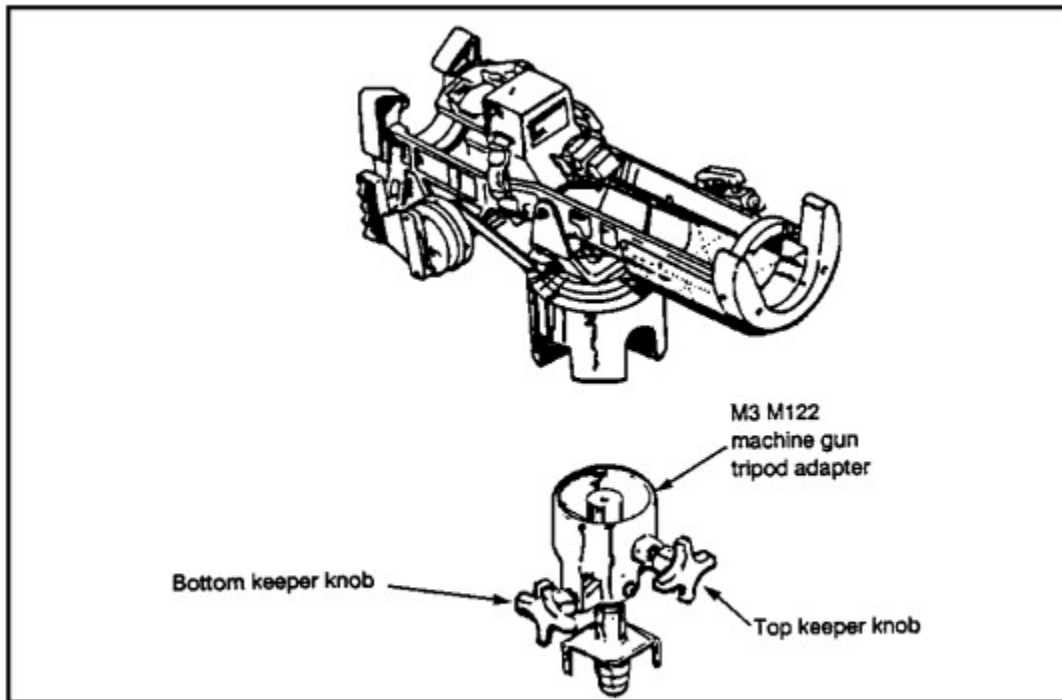

Figure 1-11. Guided Missile Launcher Mount.
(1) M175 Mounting Assembly. The guided missile launcher mount (shown in Figure 1-11) provides a stable platform for firing the Dragon missile from the M113 APC and the M3 or M122 machine gun tripods. The unit track mechanic installs the M175 mounting assembly on the APC. If the APC is turned in for overhaul or repair, ensure that the unit mechanic removes all support equipment.